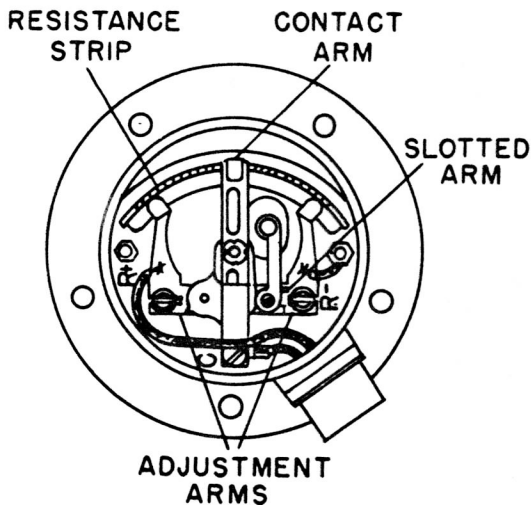

Figure 40—Stroke Adjustment of Tank Unit
(4) Referring to Figure 40, slotted arm (2) in linkage is fixed to wiper contact arm support which also is free to move around the shaft. By adjusting the distance between link bearing and shaft, the amount of travel of wiper contact arm (3) can be set so that the contact shoe on wiper arm will move over the resistance strip (1) the required amount when the float is moved to touch top and bottom of the tank. The slotted eccentrics in the adjustment arms (4) are provided to control
end through an adjustable shoe. (See Figure 40.) This adjustment varies the effective resistance value of strip (1) and affords a convenient means for adjusting the pointer position at either end of the dial scale in conformity with the position of the float at the top and bottom of the tank.